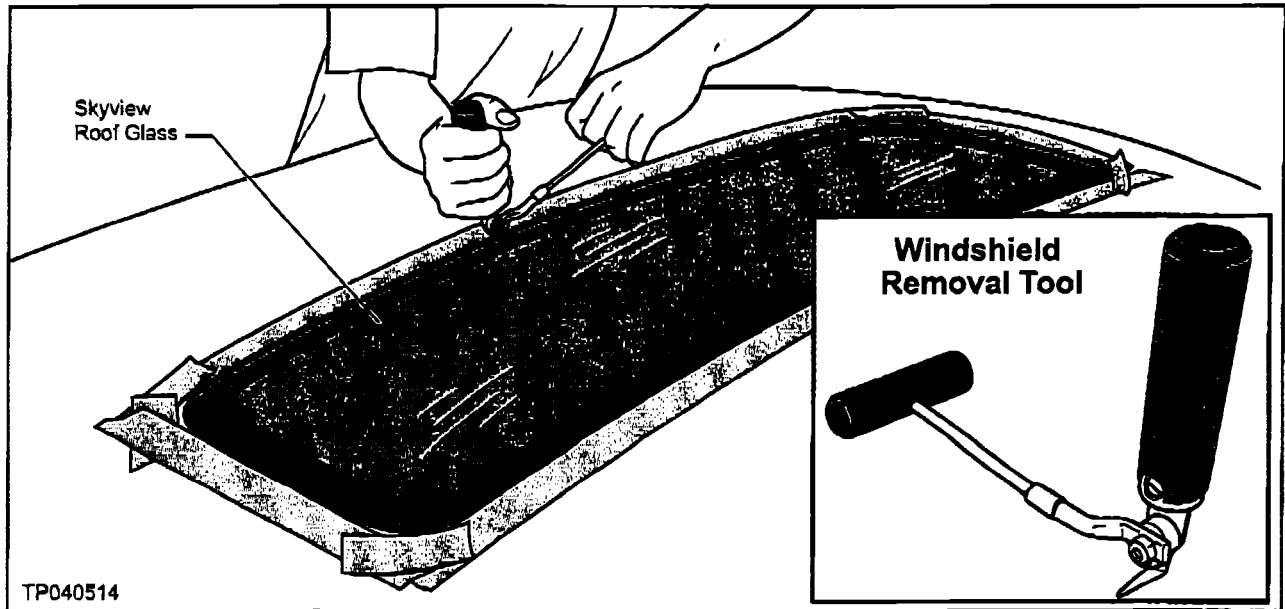

Figure 3
- Using a suitable windshield removal tool, carefully cut the adhesive around the Skyview Roof Glass (see Figure 3).